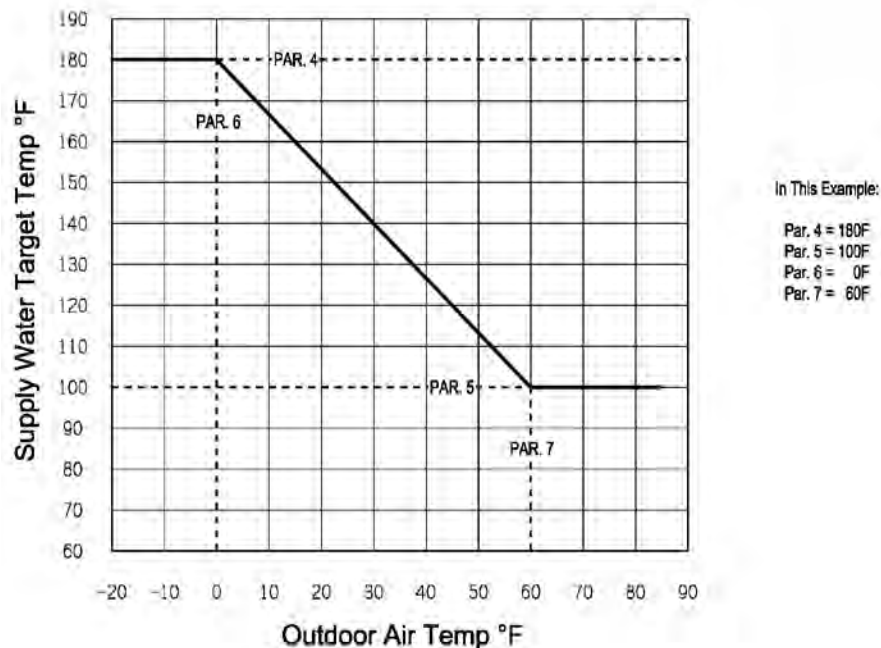

Figure 53: Adjusting Boiler Water Reset Curve
2. Changing the boiler water reset curve - When an outdoor temperature sensor is connected to a Alpine boiler, the MCBA will adjust the target boiler supply temperature based on outdoor temperature when the boiler is responding to a call for central heat. Figure 53 is a graph showing the target boiler supply temperature as a function of outdoor temperature. The curve shown in Figure 53 is that obtained with the factory set parameters. The shape of this curve may be changed by changing Parameters 4, 5, 6, and 7 as shown in Figure 53. Refer to Part I Section C for the procedure to change parameters.